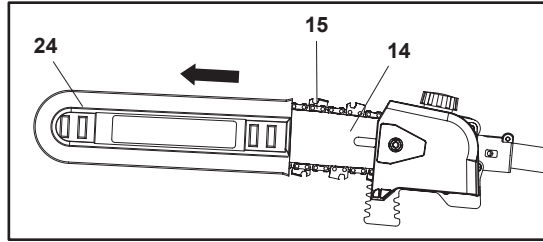

Fig. 7
1. Remove the guide bar cover (24) from the saw chain (15) and the guide bar (14) before operation (Fig. 7).
2. Keep the guide bar cover (24) safely.